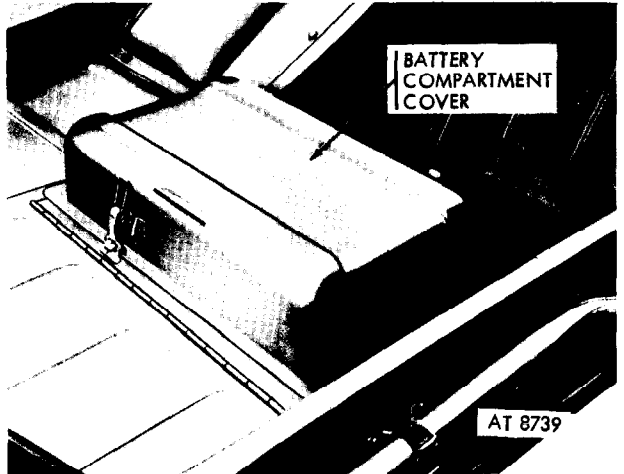

Figure 3-16. Battery compartment cover.
a. Remove right hand front passenger seat. Remove battery compartment cover located as illustrated by figure 3-16.